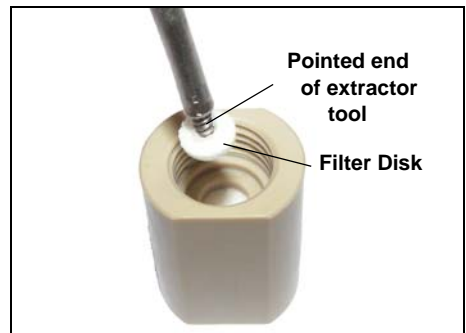

Figure 10. Removing a Filter Disk
6. Insert the pointed end of the extractor tool into the topmost filter disk in the filter holder. Screw the extractor tool into the filter disk and pull the disk out of the filter holder (see Figure 10). **Discard the filter disk; it cannot be reused.**